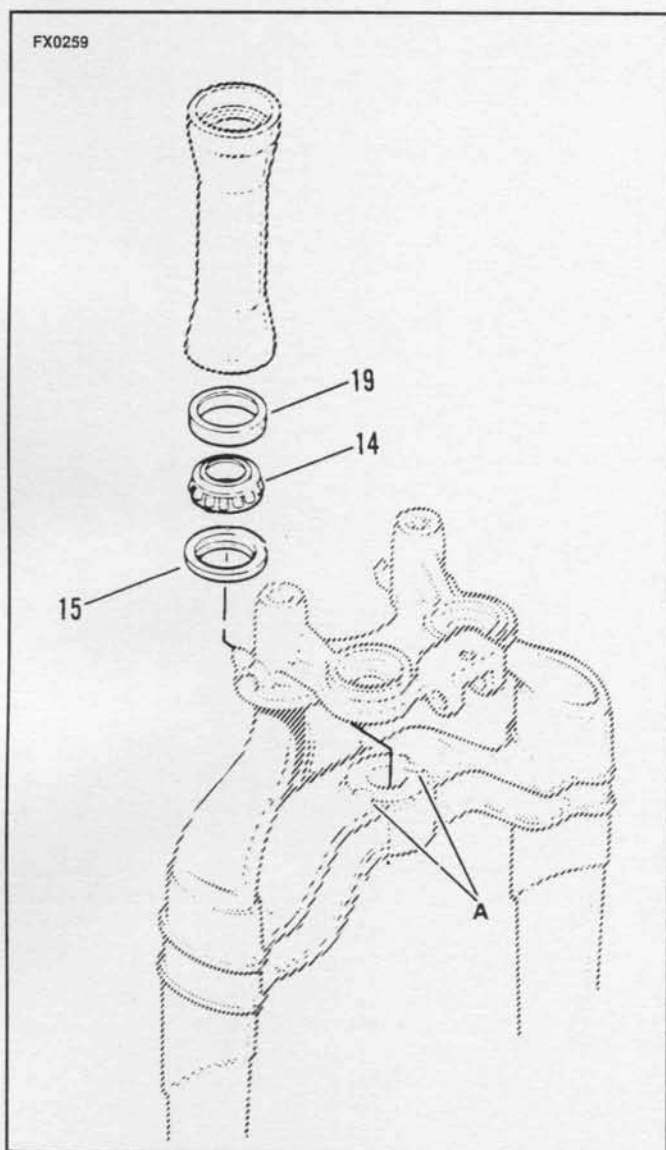

Figure 2-75. Fork Stem Assembly
See Figure 2-75. Springer rigid fork stem bracket has notches (A) machined into the pad on the bracket. These notches make it possible to use a pair of pry bars to pry the lower dust shield and bearing off the fork stem.
1. See Figure 2-75. Remove bearing (14) and dust shield (15) from fork stem (16).
1. See Figure 2-75. Press dust shield (15) and bearing (14) onto fork stem.